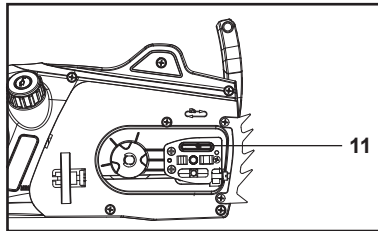

Fig. 14a
1. Disassemble the guide bar (4) and saw chain (3) in reversed order from assembly.
2. Check the oiling port (11) for clogging and clean if necessary to ensure proper lubrication of the guide bar and saw chain during operation. Use a soft wire small enough to insert into the oil discharge hole (Fig. 14a).